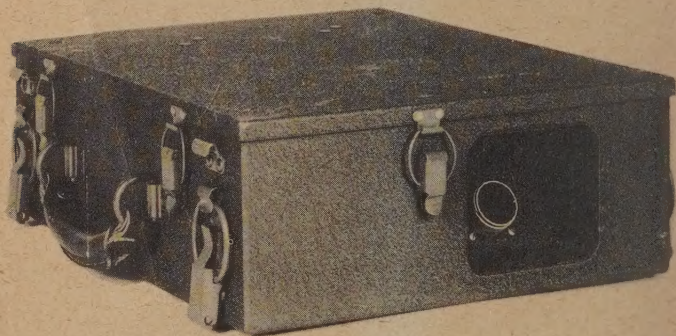

Figure 3B.2. Battery Case CS-79-N
The following mechanical improvements have been incorporated: (1) The cover is easily removable, (2) five catch clips have been added to hold down the cover securely, and (3) the connector cable has been replaced by a receptacle mounted on the recessed portion of the front panel. (Fig. 3B.2.)